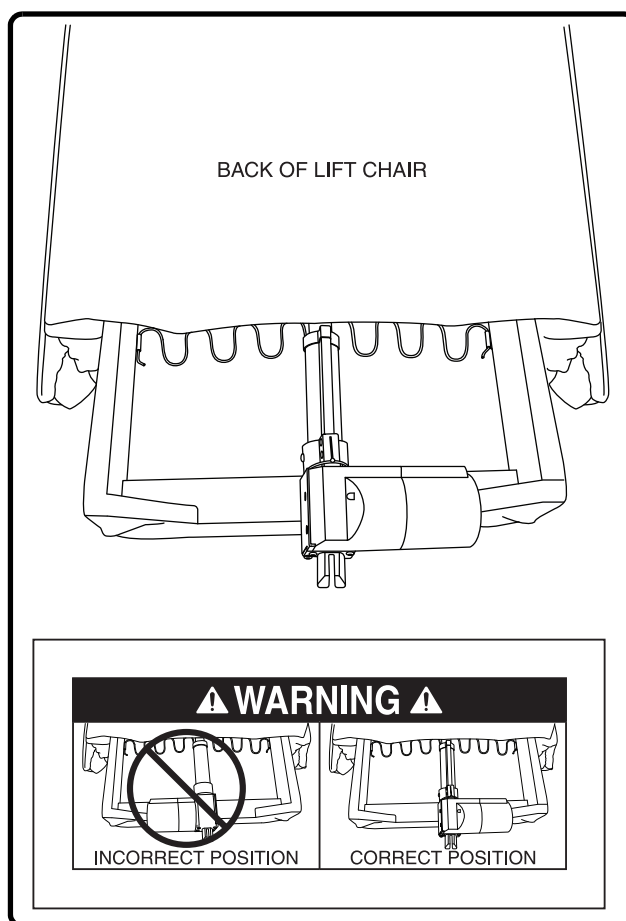

Figure 4.2 Correct Actuator Positioning
**WARNING!** Make sure that the actuator is turned towards the right (if facing the back of the lift chair) to avoid possible damage to any lift chair components (Fig. 4.2).